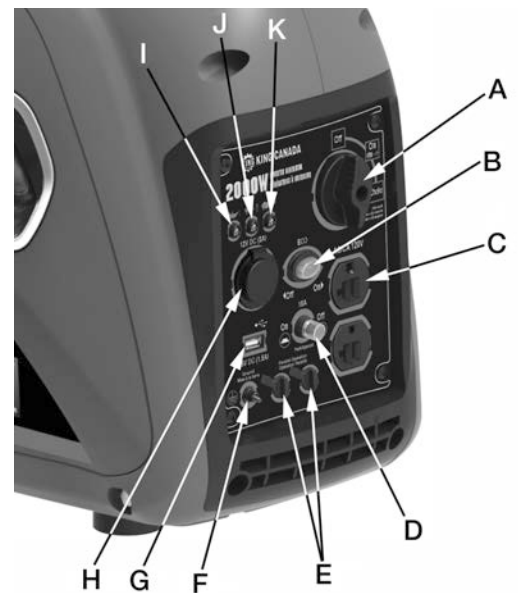

Figure 7
- **ON/CHOKE/OFF DIAL-(A) FIG.7.** On cold starts, turn dial to the Choke position before starting generator, once the generator starts turn dial to the On position. On warm starts turn dial to the On position. Turn dial to the Off position to turn generator off.
- **ECONOMICAL MODE SWITCH-(B) FIG.7.** When placed in the "On" position, the engine speed will be kept at idle automatically when an electrical load is disconnected and returns to proper speed to power the electrical load when reconnected. This is recommended to minimize fuel consumption during operation. Before using the electrical appliance, switch the Economical Mode switch to the "Off" position.
- **120V AC DUPLEX RECEPTACLE (C) FIG.7.** For normal 120V operation, plug your appliance or power bar into one of the duplex 120V receptacles.
- **15A RESET (D) FIG.7.** If an overload or short-circuit occurs, the Reset (D) Fig.7 or the internal overload sensor will "trip" to protect the circuit, causing the generator to automatically shut off. Disconnect all electrical items from the control panel. Press the tripped reset button and restart the generator.
- **PARALLEL CONNECTIVITY PORTS-(E) FIG.7.** It is possible to connect two identical inverter generators together using optional Parallel Cable Kit (Mod. K-X2P) for combined power output. Follow instructions provided with the optional Parallel Cord for more instructions.
- **GROUNDING TERMINAL-(F) FIG.7.** Attach cable to this terminal and ground to earth.
- **USB PORT-(G) FIG.7.** Connect USB powered devices for charging/operating purposes.
- **12V DC CIGARETTE LIGHTER SOCKET-(H) FIG.7.** Connect 12V DC powered devices for charging/operating purposes.
- **INDICATOR LIGHTS-(I, J, K) FIG.7.** The **Power** light (K-green) will remain on during normal operation. If the generator is overloaded or if there is a short in the connected appliance, the Power light (K) will turn off and the **Overload** light (J-red) will turn on, the electrical output will be stopped. **If this happens and the reset is still in the On position, this means the Internal Overload Sensor of the Digital Inverter has tripped the overload. Turn engine off, disconnect the load, wait a few seconds and restart engine.** When an electric motor is started, both the Overload (red) and the Power Output (green) may turn on simultaneously. The Overload red light will turn off after a few seconds. Constant overloads will shorten the life of the generator. The **Low Oil Warning** light (I-red) will turn on and the engine will not start if the engine oil level is too low. Add oil if this warning light turns on.